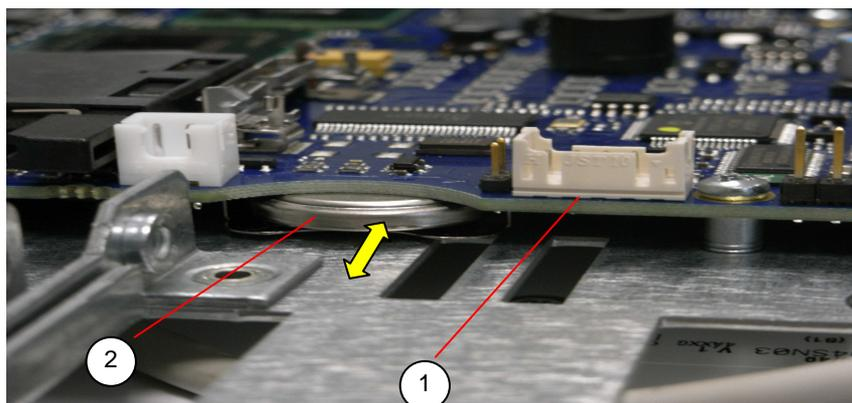

Fig. 35: Detail of opened system – Lithium battery location
2. Pull the battery (pos. 2, Fig. 35) outwards.